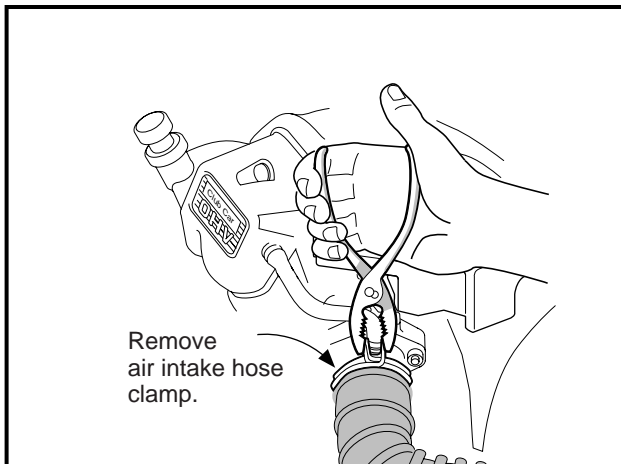

Figure 16-10 Air Intake Hose
- 3.2. Disconnect the air intake hose from the carburetor (**Figure 16-10, Page 16-8**).